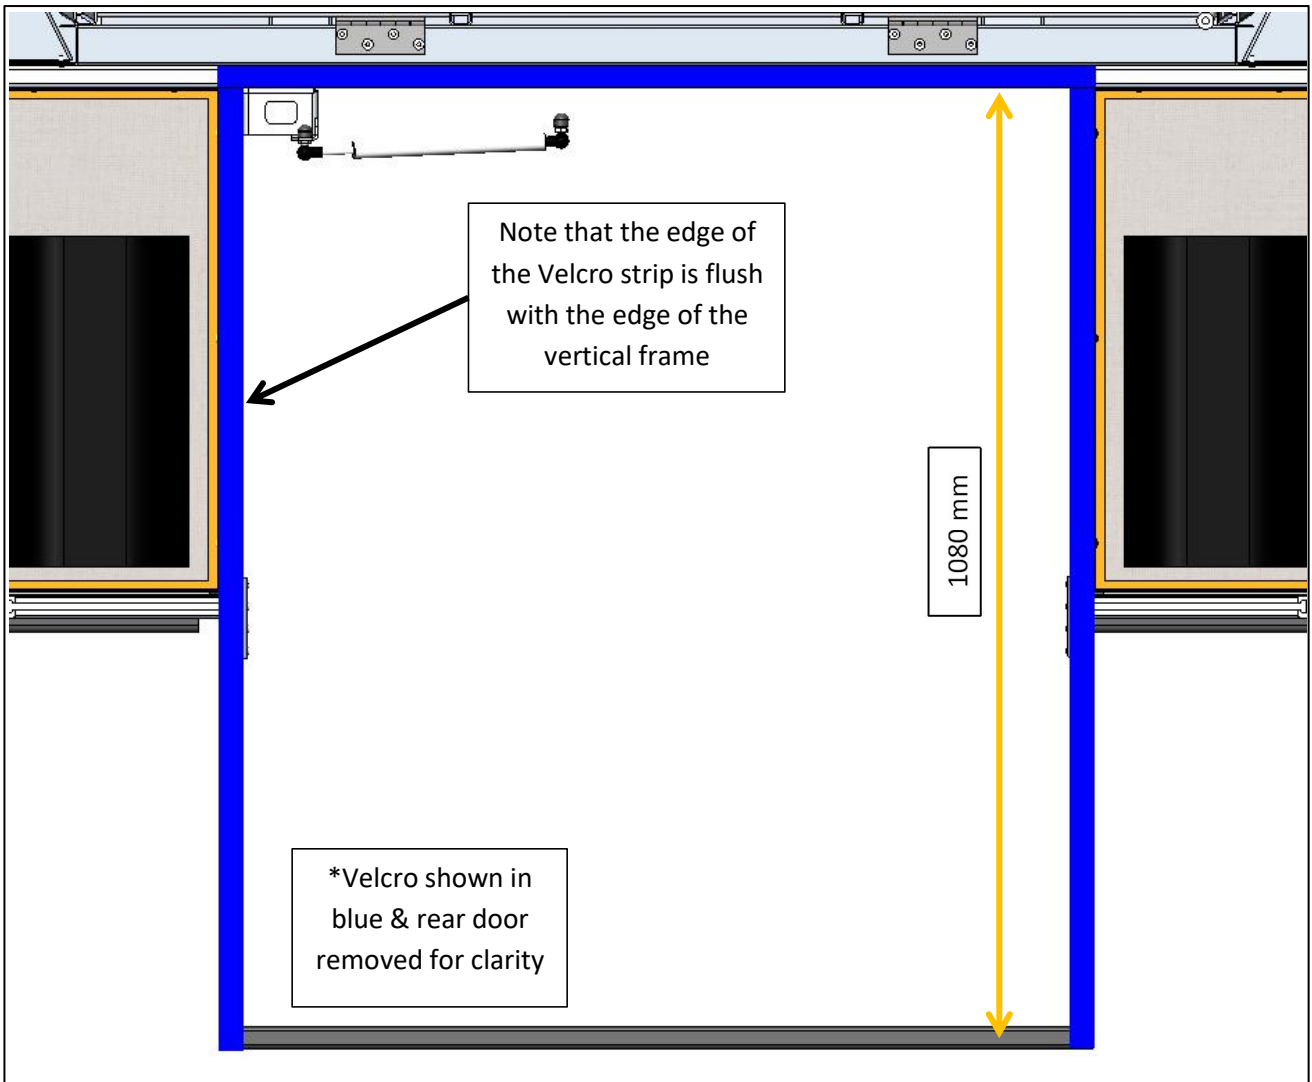

Figure 3: Velcro Application (Side Surfaces)
Apply the two (2) 1080 mm long Velcro strips to the LH & RH vertical surfaces of the rear door frame, as shown in Figure 3, below:
Peel back the white backing layer, and apply the Velcro, starting in the one corner, flush on both edges of the frame and work your way along the length slowly. After the Velcro is seated, use the 3M PA-1 Applicator to apply a smooth, constant pressure sweep from one end to the other. This even pressure activates the bonding adhesive, and pushes out air bubbles. See Figure 3, below: